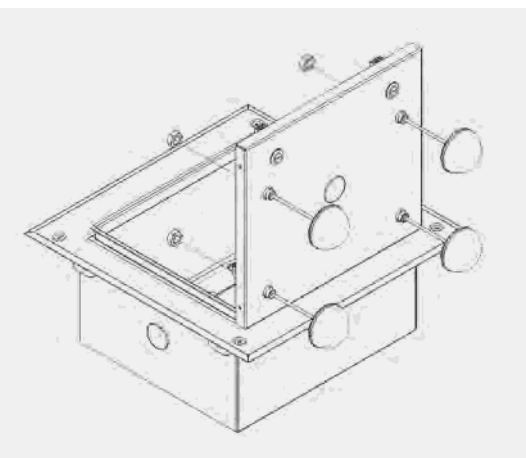

Figure 3
**Step 3 – (Optional)** With the desired number of holes opened, attach antennas (such as Oberon's BMANT or DMDUAL) and DAS antennas by inserting the cables through the door holes. Fasten the antennas to the door per the antenna manufacturer's instructions. To retain the water and dust resistance of the enclosure, antennas should have a gasket to fill the opening. After installation, connect the *RF coax* cable from the *antenna* to the *access point* (Figure 3). If using Bulkhead connectors, use Oberon Bulkhead connectors with provided o-ring (P/N 35-NFBLKHD) to maintain water tightness.